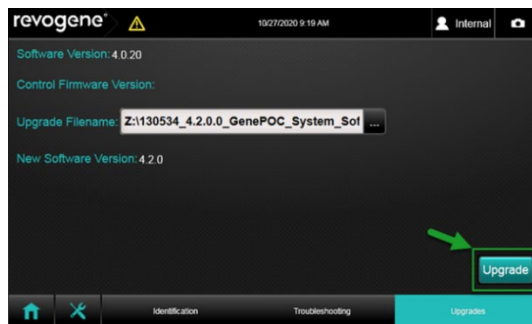

Figure 5. Upgrade Button Location
8. The window will close and the <Upgrade> button on the right bottom corner will be available. Tap on the <Upgrade> button (Figure 5)